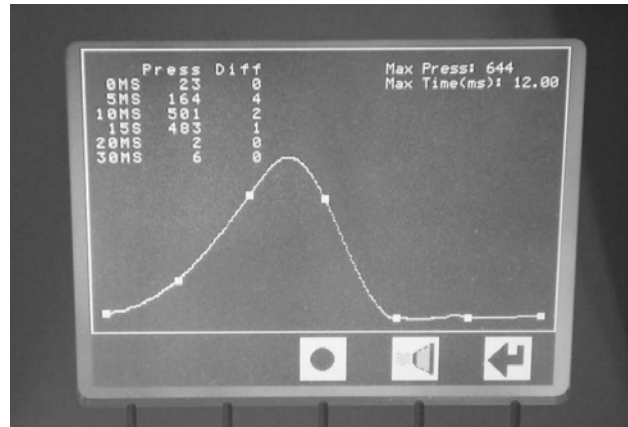

Figure CT-1. Pressure -vs- Time Waveform
3. After the unit puffs, a graphical representation of the pressure ramp will appear on the screen. The graph line must pass through the "alignment dots" on the screen. Refer to Figure CT-1.